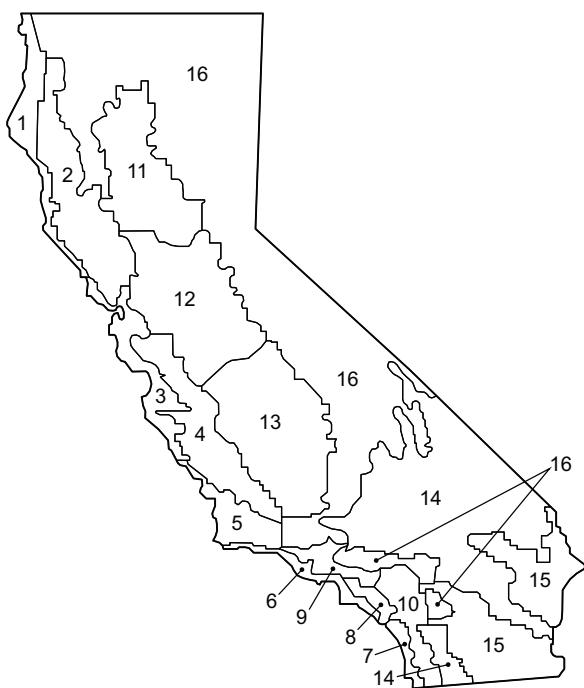

Fig. 86 — California Title 24 Zones
- Refer to Fig. 86 for map of California Title 24 zones.